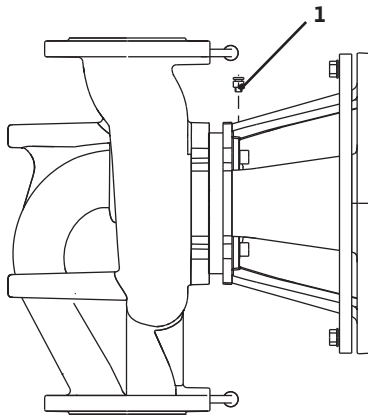

Fig. 38: Ventilation valve
- Vent the pumps by loosening the air vent valves (Fig. 38, Item 1). Any dry running would destroy the mechanical seal of the pump. The differential pressure sensor must not be vented (risk of destruction).